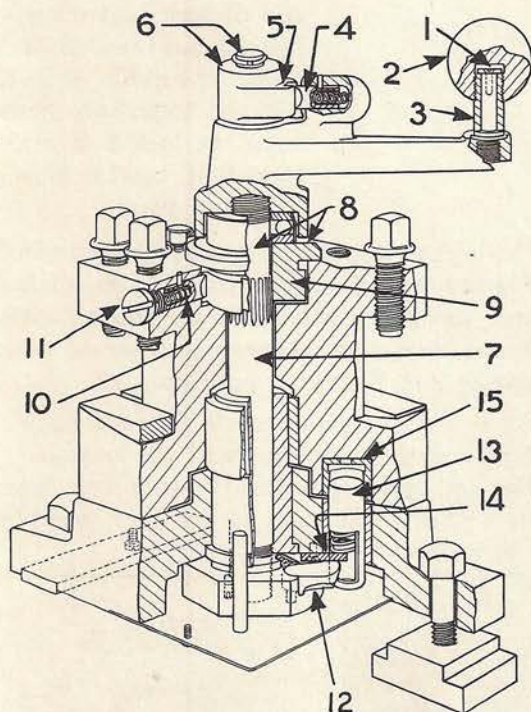

Fig. 21. The Automatic Indexing Square Turret
The square turret is the automatic indexing type. Units recently made have the timed relation of the members marked so that they can be assembled speedily. Look for these marks at (6) and (8) Fig. 21, on shaft and collars.
The Indexing Mechanism Functions as Follows: Fig. 21
Lift off Collar (5) Fig. 21, and unscrew the handle. Release set screw (11) and lift Turret off, together with collar (9). The lockbolt bushing (15) can be pushed out of its seat by inserting a screw into the thread in the head. The lockbolt should be lubricated with light oil, not machine oil, before assembling. It has a close, ground and lapped fit in the bushing and may stick if machine oil is used on a new assembly.
Remove set screw (11) Fig. 21, withdraw plunger and spring (10) and return set screw.